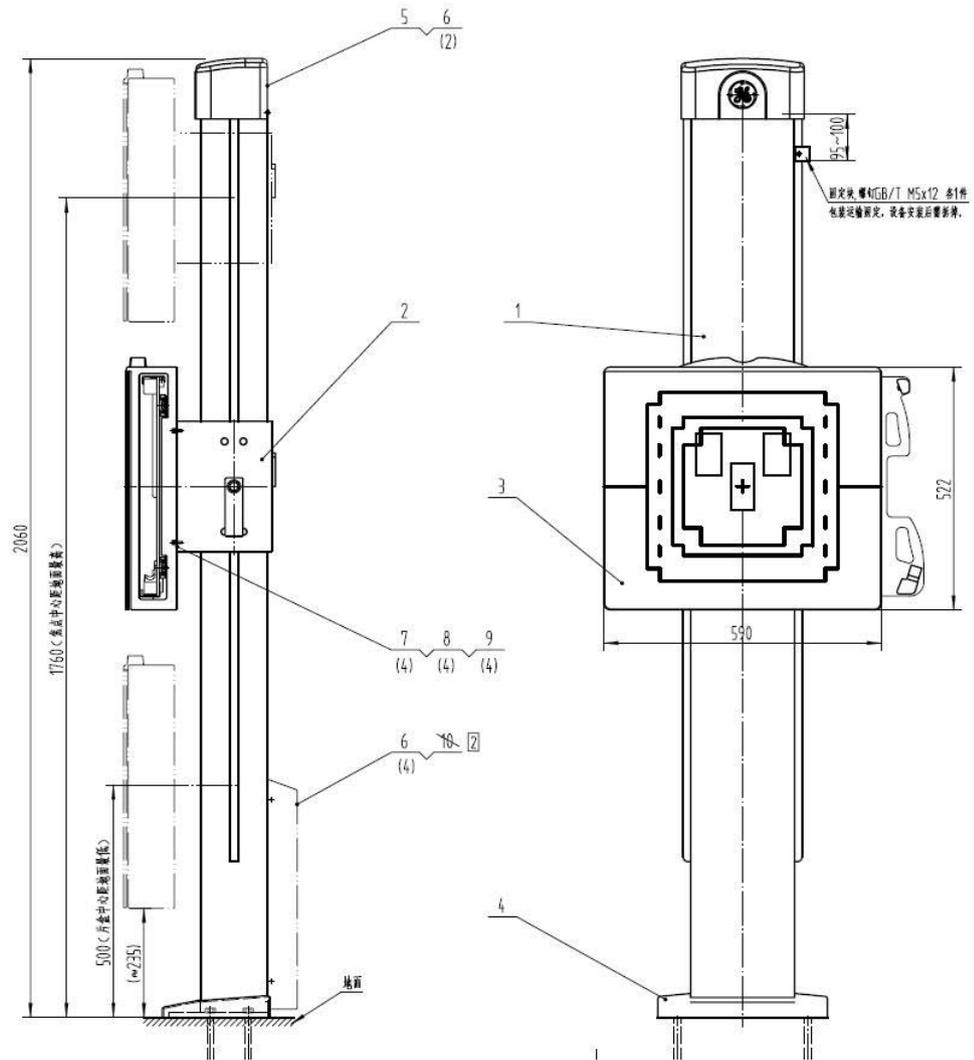
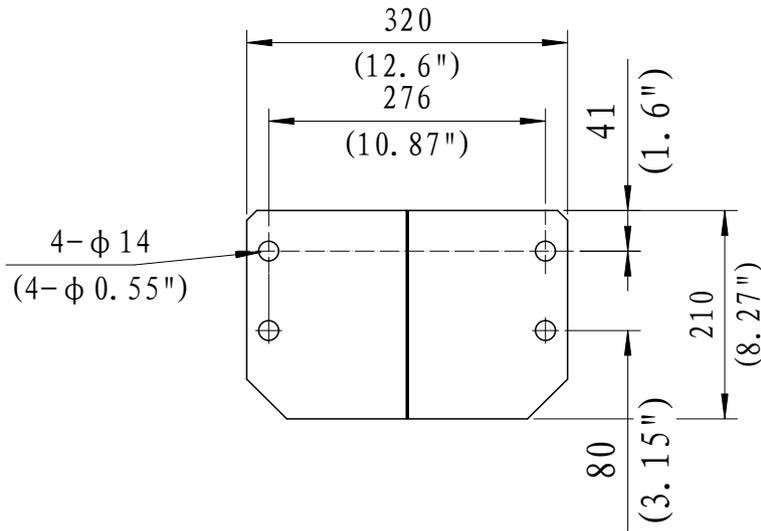

Figure 6-10 Standard Wall Stand Plan View
Figure 6-12 Standard Wall Stand Template
- Standard Wall Stand - Figure 6-10 through Figure 6-12.